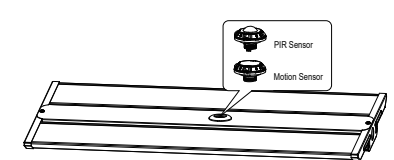

Figure 13
- Step2. Twist-lock the DC sensor to the base to make it work properly, use a remote control to adjust the working mode as per demand. (Figure 13)